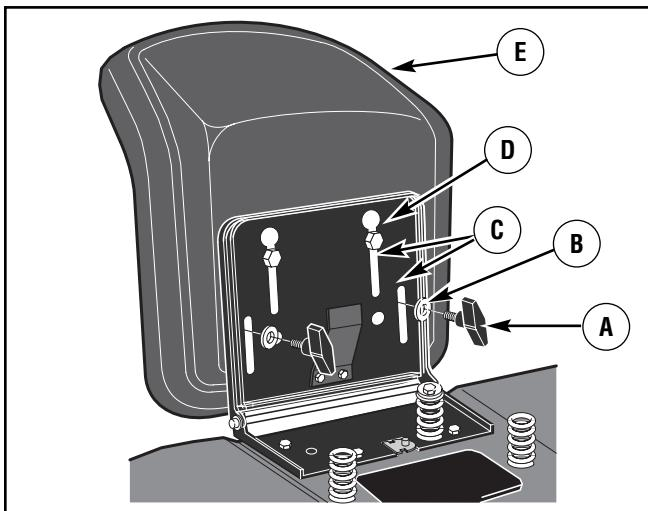

Figure 5: Seat
2. Align the holes in the **seat hinge** to the holes in the **seat** (Figure 5). Fasten the seat to the **seat hinge** with the fasteners as shown.
3. Check the operating position of the **seat**. If the **seat** needs to be adjusted, loosen the two **wing bolts**. Slide the **seat** forward or backward along the **seat adjusting holes** as shown. Tighten the **wing bolts** (A).